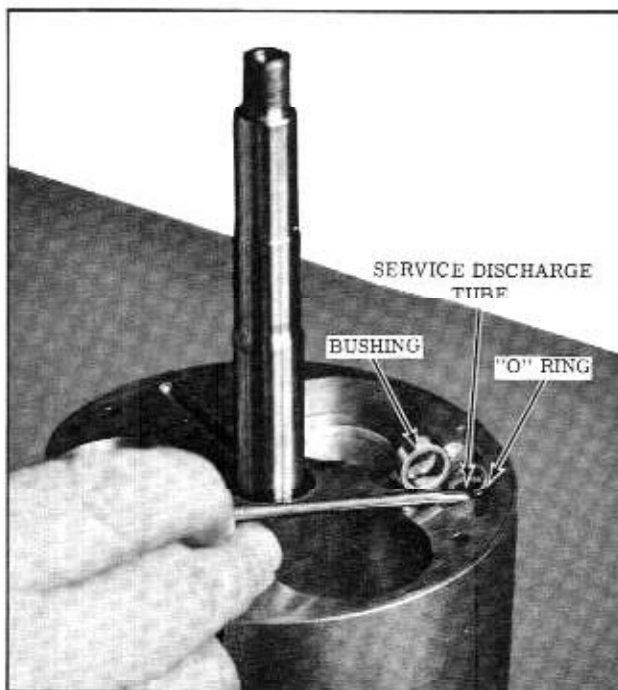

Fig. 14-57 Installing "O" Ring and Bushing
26. Install "O" ring and bushing over discharge tube. (Fig. 14-57)